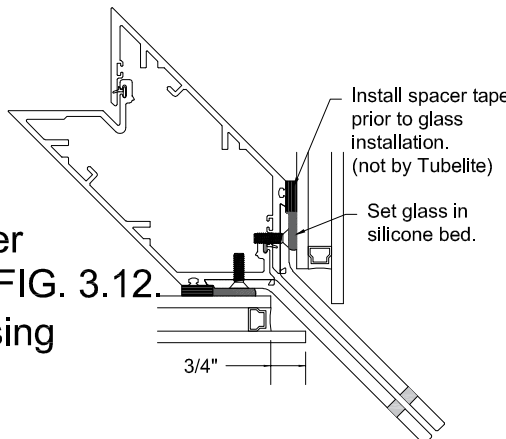

FIG. 2.12
- 4) NOTE: CORNER GLASS IS OFFSET TO EXTERIOR. FIG. 2.12.
- 5) Install spacer tape and silicone prior to glass installation. FIG 2.12.